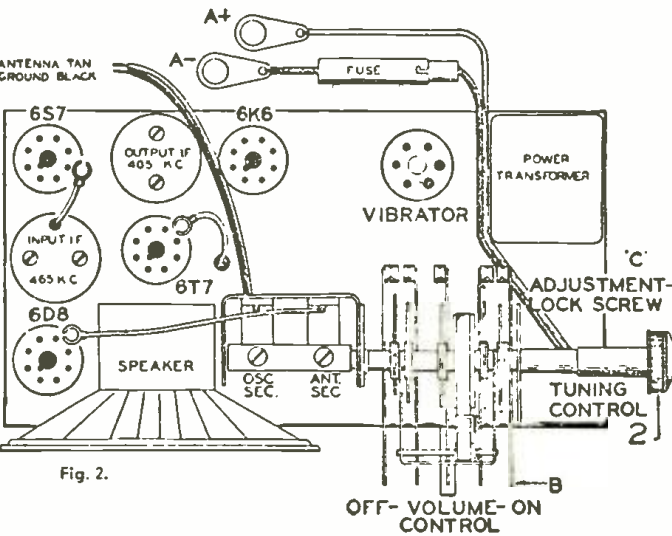

Fig. 2.
- (a) With external oscillator set at 1,720 kilocycles, adjust oscillator trimmer to resonance. This adjustment is on the top of rear section of variable gang condenser. (See Fig. 2.)